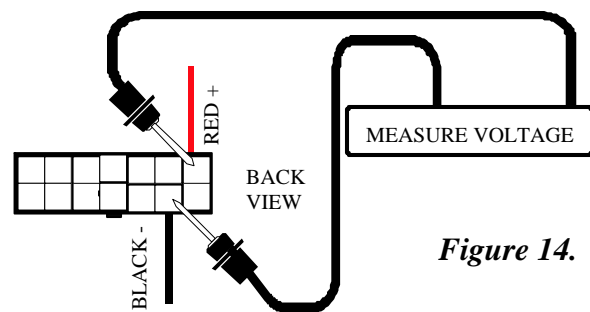

Figure 14.
9. Insert the multimeter probes into the terminal with the red wire (pin 7) and the terminal with the black wire (pin 13) on the back of the main harness connector (7). See figure 14.